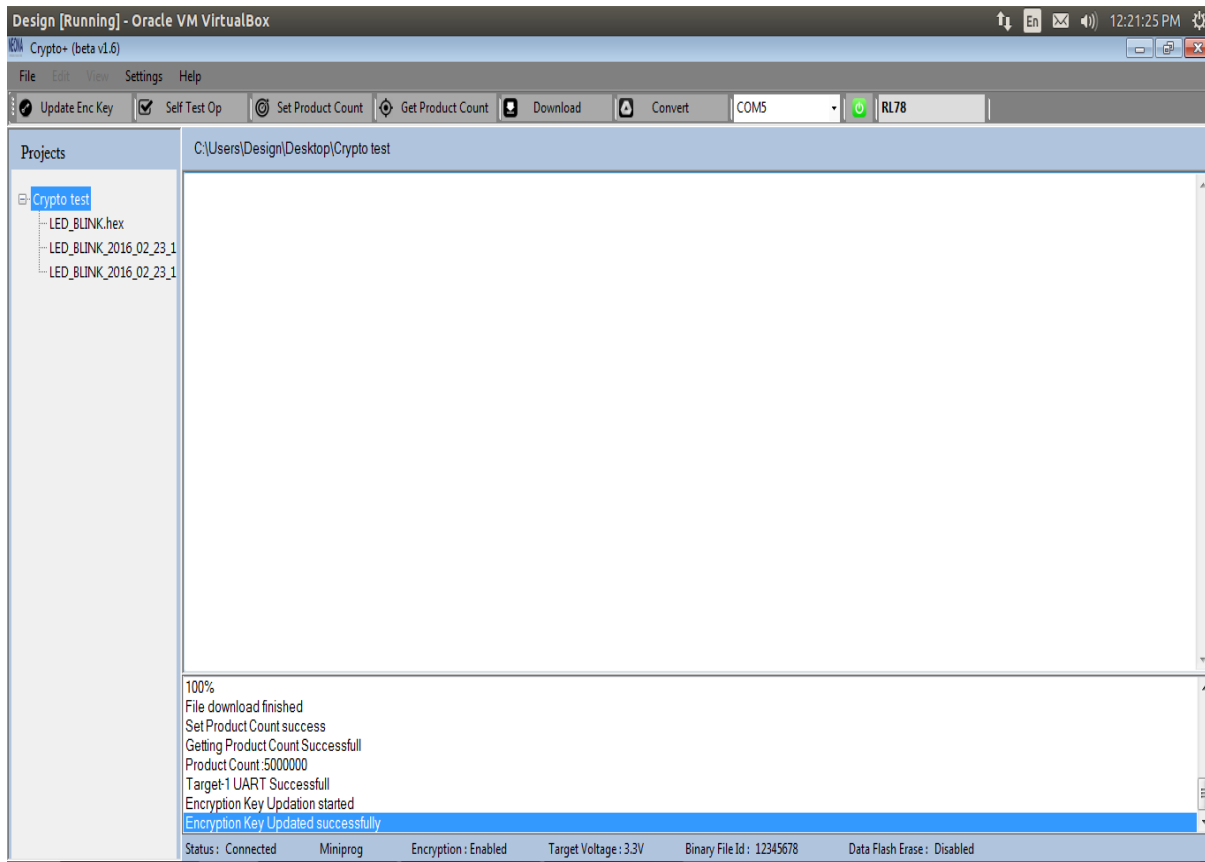

Figure 2.40
STEP 3: A message ‘**Encryption key Updated successfully**’ is displayed in the text view as shown in figure 2.40.